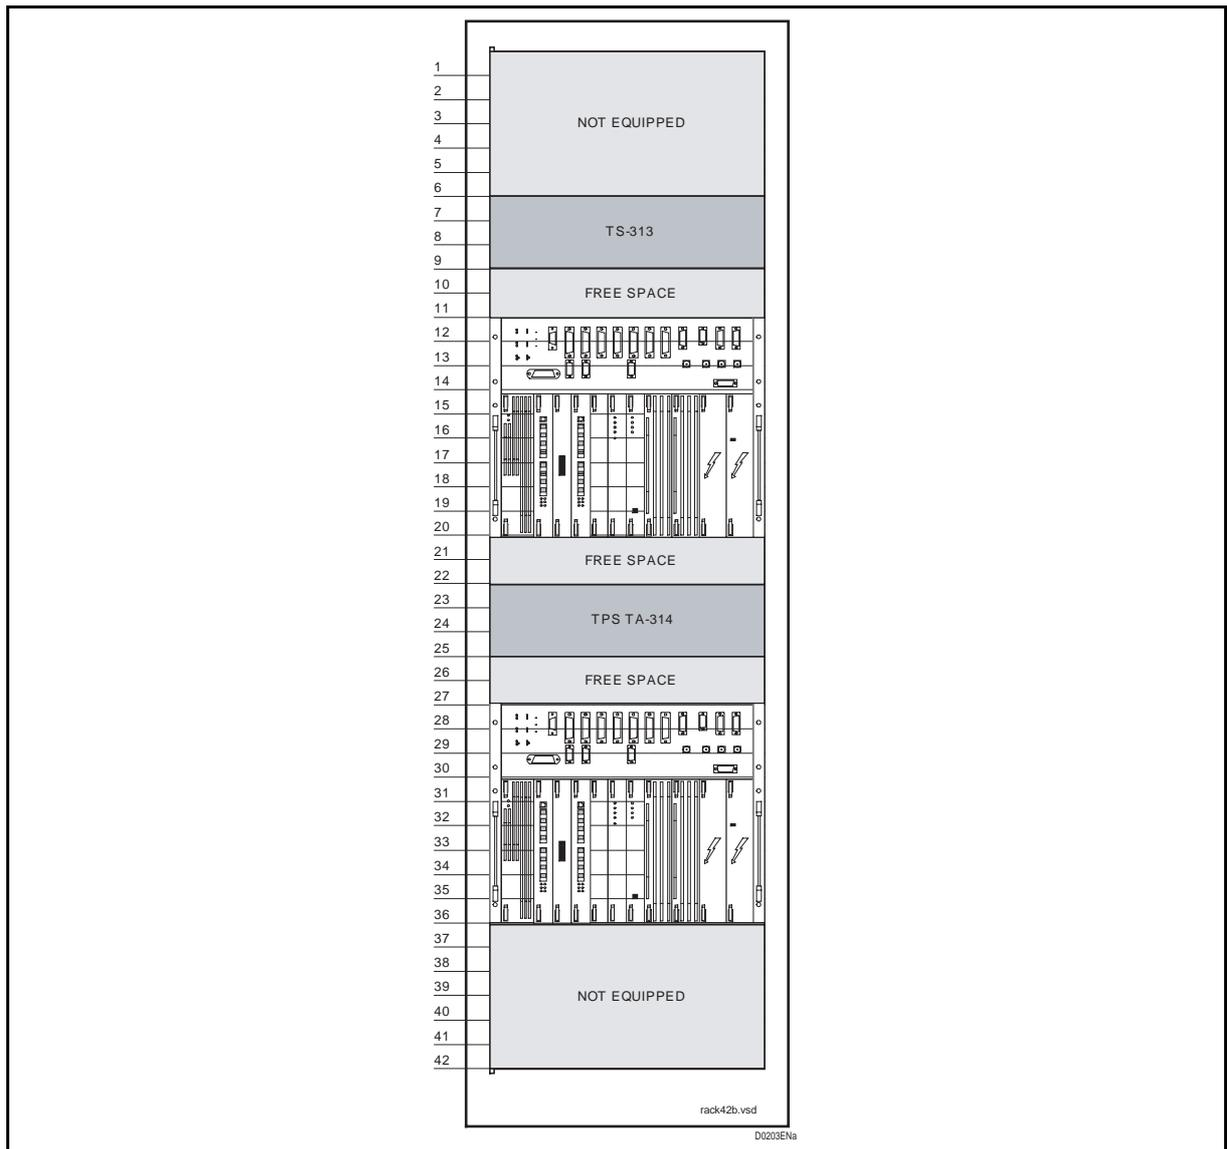

FIGURE 3 – PLC INSTALLATION EXEMPLE
- **The minimum distance to leave between the PLC and the other equipment installed into the same rack must be, at least, of 2 din unit, see Erreur ! Source du renvoi introuvable.figure 3.**